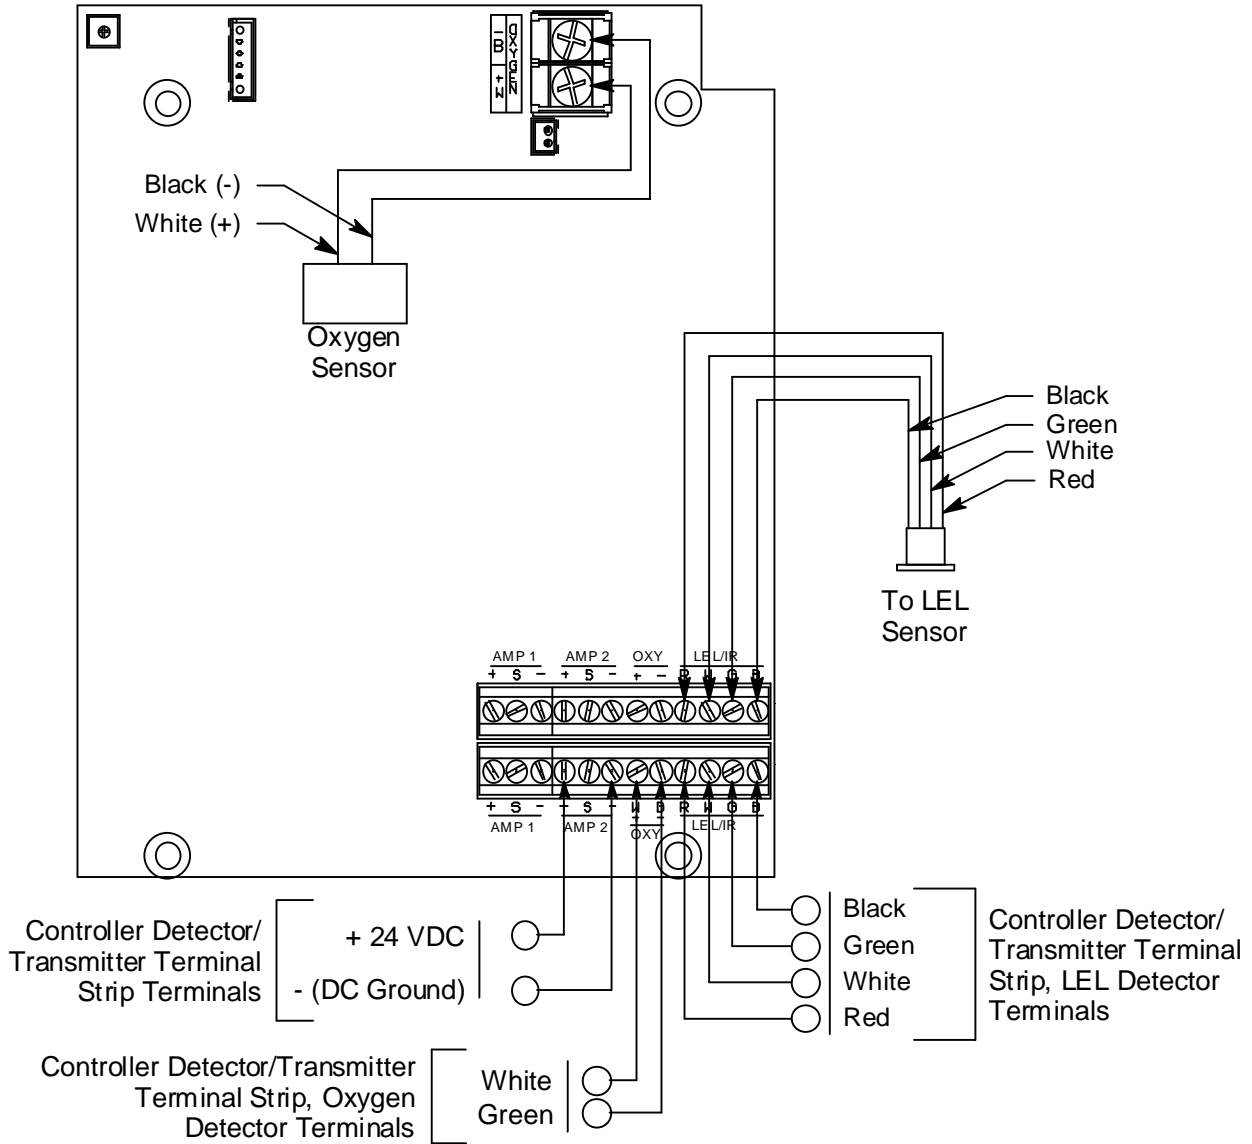

Figure 4: Wiring the Sample-Draw Detector to a Controller
5. Connect the cable to the sample-draw detector’s interconnect terminal strip as shown in Figure 4.
8. Connect the wires to the applicable detector/transmitter terminal strip at the controller as shown in Figure 4. Refer to the controller operator's manual and the controller detector head specification sheet for the 35-3001-06 for detector/terminal strip connections specific to the controller.